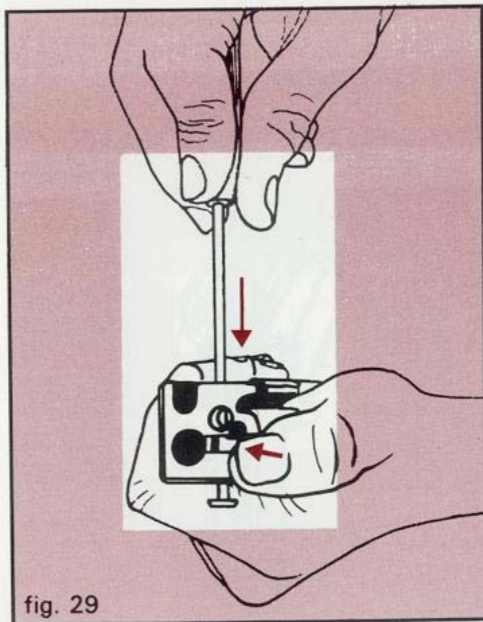

fig. 29
1. Using a suitable drift pin (1/8" to 5/32" dia.) push out extractor retaining pin from its shank end, holding finger over blocking latch to keep spring from jumping out (fig. 29), then carefully remove blocking latch with spring.